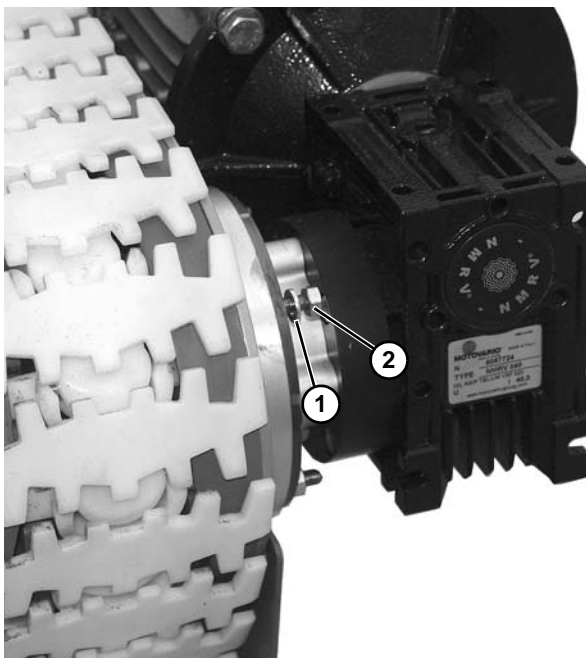

Figure 15
3. Install four washers (Figure 15, item 1) and nuts (Figure 15, item 2) to secure motor to conveyor.